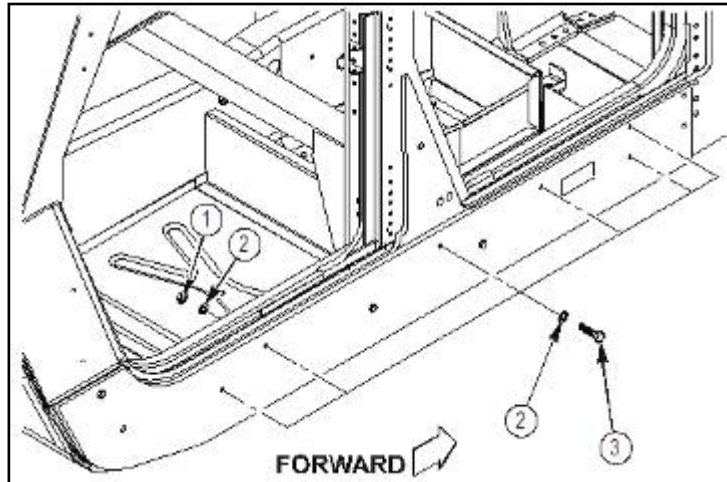

Figure 32a
7. Install six 4397000-020 capscrews (3), twelve 4397005-010 washers (2), and six 4397064-001 locknuts (1) as shown in figure 32a. Do not tighten locknuts (1) at this time.